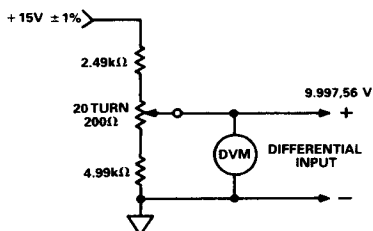

Figure 5. Input Connection for the R_{SPAN} Calibration
1. Apply a precise $10V-2.44mV$ across the input of the AD368/AD369. A voltage divider as shown in Figure 5 can be employed; in conjunction with a precision voltmeter to verify an input of $9.997,56V$.